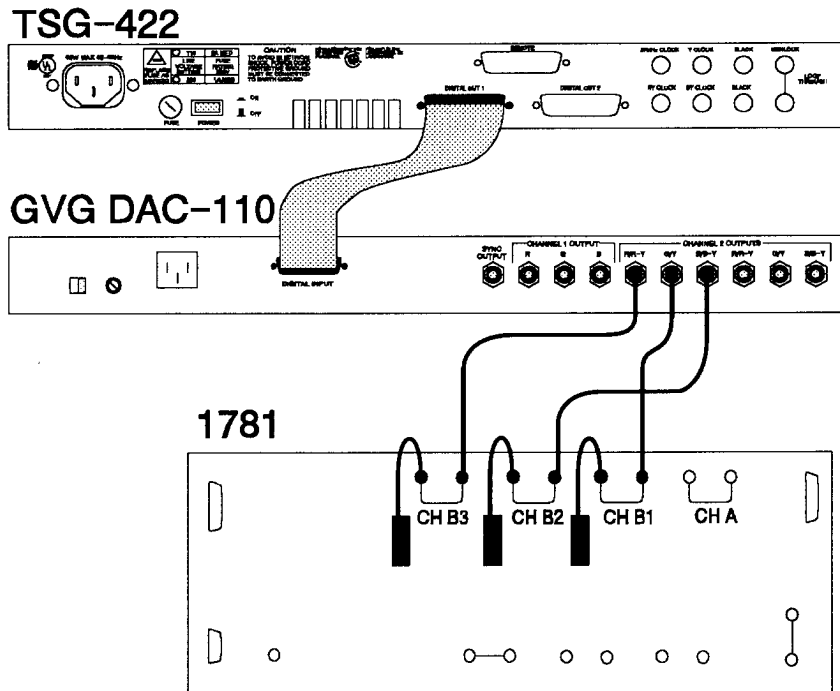

Fig. 5-11. Setup for checking the test signals.
- a. Connect the test equipment as shown in Fig. 5-11.